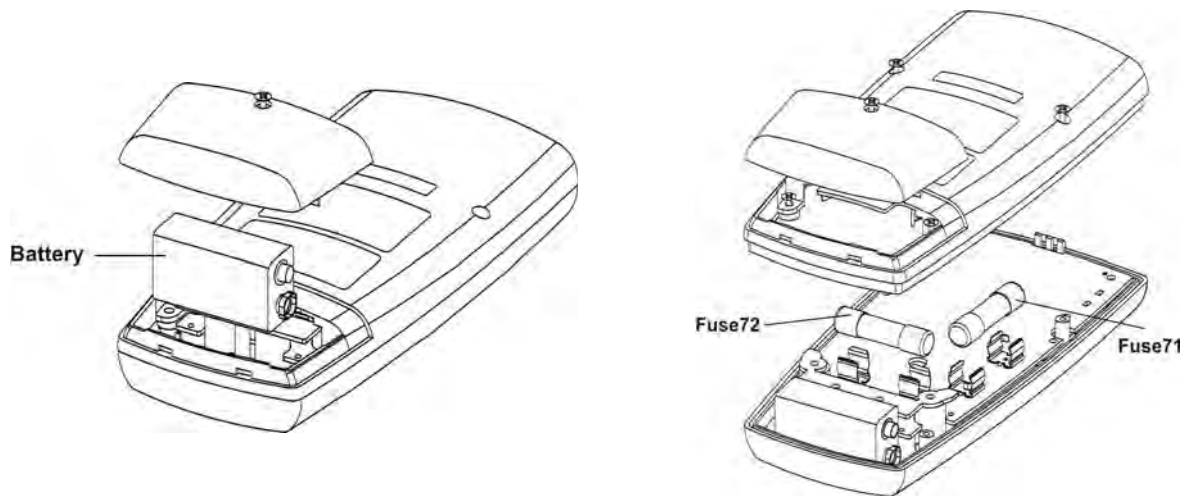

Fig. 11: Replacement of the battery and internal fuses
3. Loosen the screw of the rear battery compartment cover, remove the cover and extract the battery (see Fig. 11)